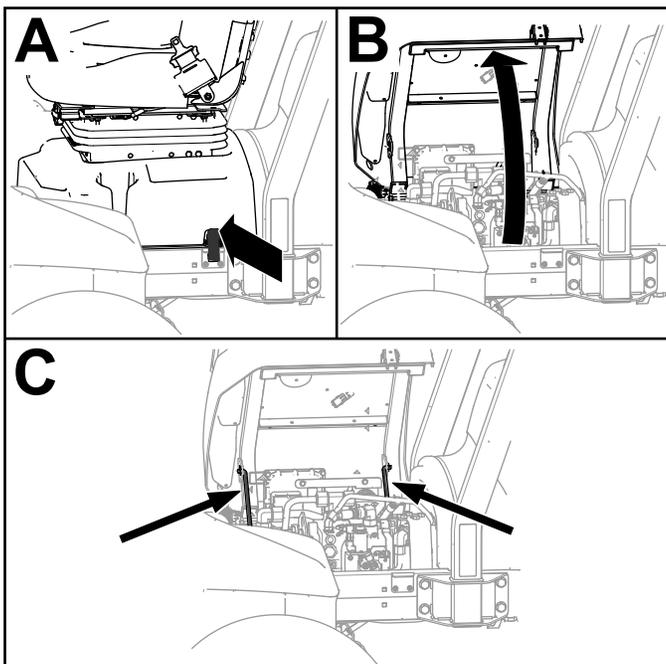

Figure 68
1. Unlatch the seat base (A of Figure 68).
2. Tilt the seat and base open (B of Figure 68).
3. Support it with the prop rods (C of Figure 68).